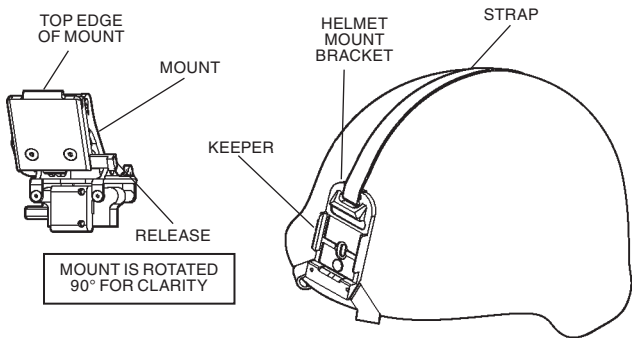
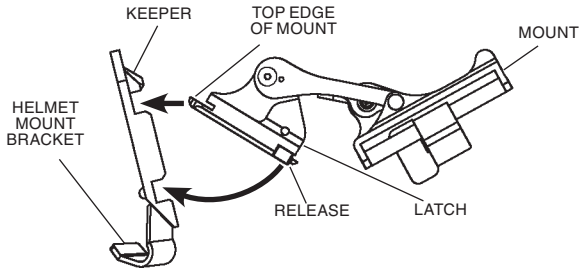

FIGURE 2.13. HELMET MOUNT
FIGURE 2.14. REASSEMBLY OF HELMET MOUNT
- (2) Press the release (Figure 2.13.) to remove the mount from the helmet mount bracket.
- (3) Make sure the strap is laced onto the helmet mount bracket as shown in Figure 2.13.
- (4) With catch (see Figure 2.13.) in forward most position, place the strap over the top of the helmet center (see Figure 2.14).
(5) Hook the rear bracket (see Figure 2.13.) on the center of the back of the helmet and lay the strap with helmet mount bracket over the top of the helmet.
(6) Hook the helmet mount bracket in the center of the front lip of the helmet and hold it in place (see Figure 2.14.).
- (7) With the buckle lever open, take up the slack in the strap using the catch. Close the buckle lever.
- (8) Disengage the nape strap latch on the left side of nape strap.
- (9) Don the helmet. Do not fasten the helmet chinstrap.
- (10) Engage the nape strap at the nape strap latch. Tension the nape strap for a stable fit, then install and tension the helmet chinstrap. The brow of the helmet should be parallel to the ground and the helmet stable on the head.
- (11) Insert the top edge of the mount under the keeper on the helmet mount bracket and rotate downward until the latch engages (see Figure 2.14.). To release the mount from the helmet bracket, press the release and pull forward and down.